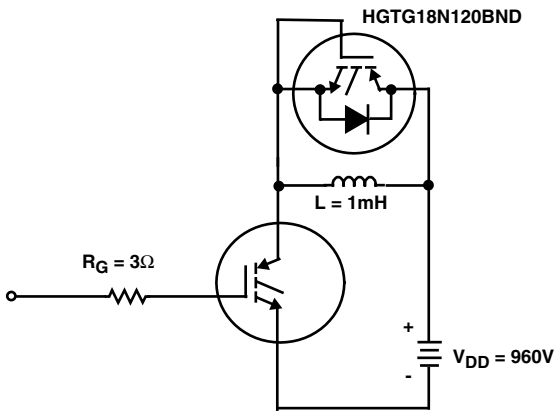

FIGURE 18. INDUCTIVE SWITCHING TEST CIRCUIT
- Values for two Turn-On loss conditions are shown for the convenience of the circuit designer.  $E_{ON1}$  is the turn-on loss of the IGBT only.  $E_{ON2}$  is the turn-on loss when a typical diode is used in the test circuit and the diode is at the same  $T_J$  as the IGBT. The diode type is specified in Fig. 18.